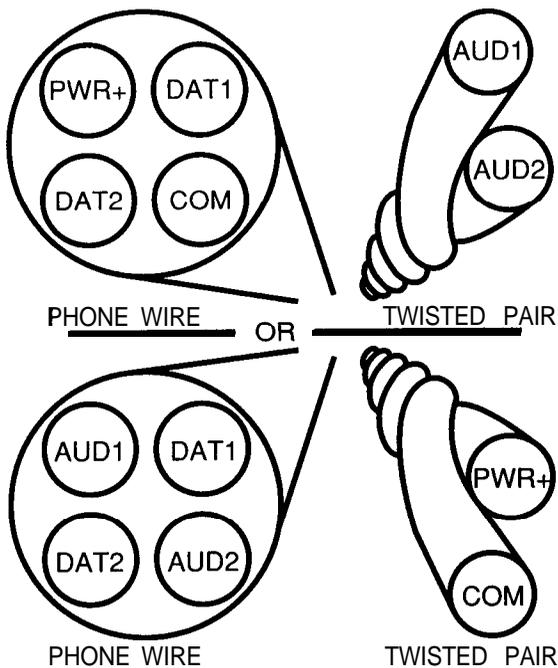

Figure 2-1 Non-UL Wiring Options
7. Run and label all wiring. Figure 2-1 shows and labels all connecting points.
A possible (non-UL) alternative is 22-gauge, 4-conductor, phone wire plus a twisted pair of 22-gauge. Refer to Figure 2-1. *For phone wire, make sure that each function (Dat or Aud) is connected to wire pairs that are diagonally opposite each other in the cable.*